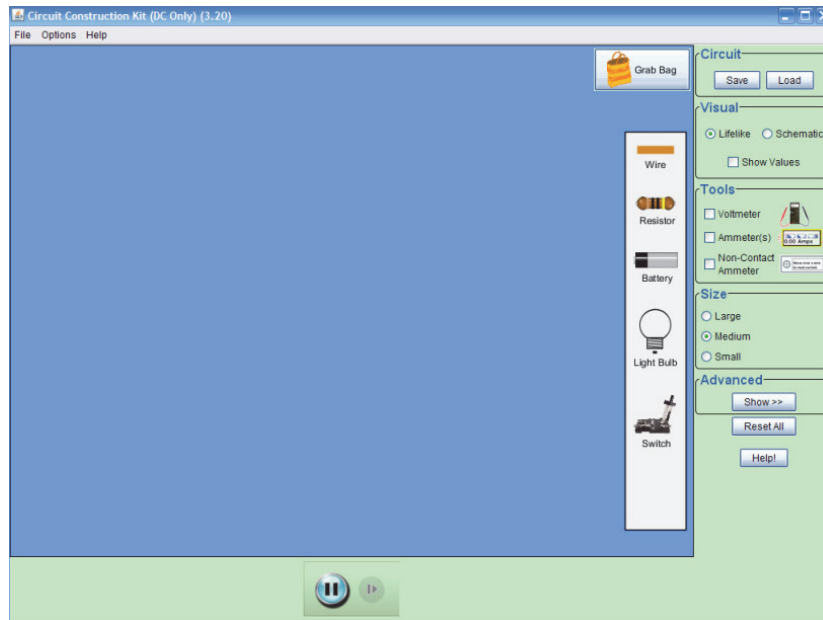

Figure 1-1
1. When a student first opens the program they will see a blank screen (Figure 1-1) with options on the side. These options are the tools that you will be utilizing are similar to what you would be using if testing circuits on a circuit board. The primary difference between a circuit board and the simulation is that the simulation is two dimensional, but also has advantages in that one can see electron flow and can control a number of variables instantly.